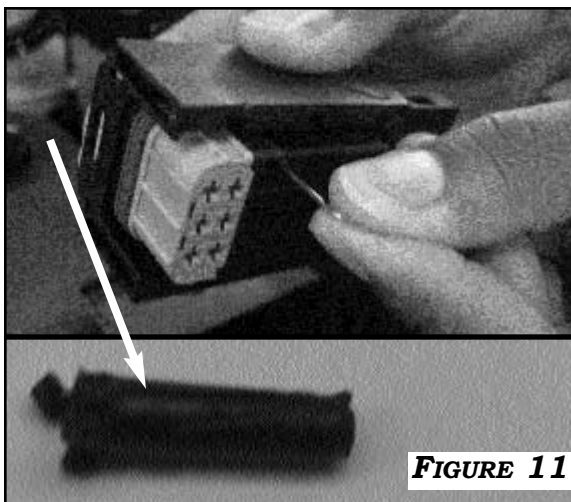
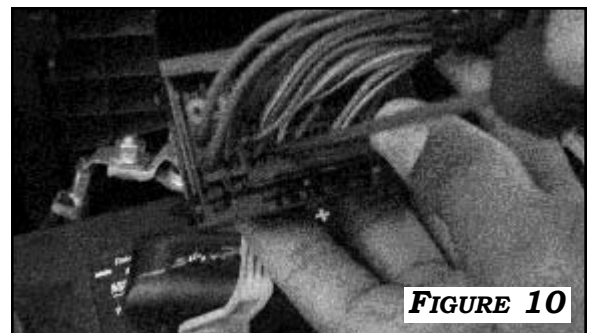

FIGURE 11
FIGURE 10
5. RELEASE SLOT CLIP TO FREE PINS IN CONNECTOR. USE PRECISION TOOL TO BREAK PLASTIC INSERT IN OPENING OF **PIN 15, 18 AND 34** OF CONNECTOR **FIGURE 10.** THEN PUSH OUT REMAINS ON REVERSE SIDE AS SHOWN IN **FIGURE 11.**